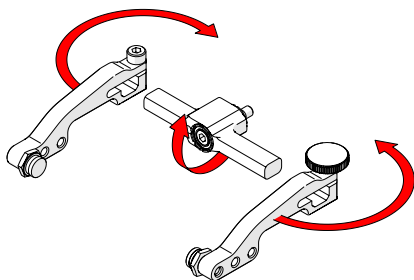

Fig. 185 - Flip yoke and reverse arms
3. Flip the yoke 180° and reverse the probe holder arms (*Fig. 185*).